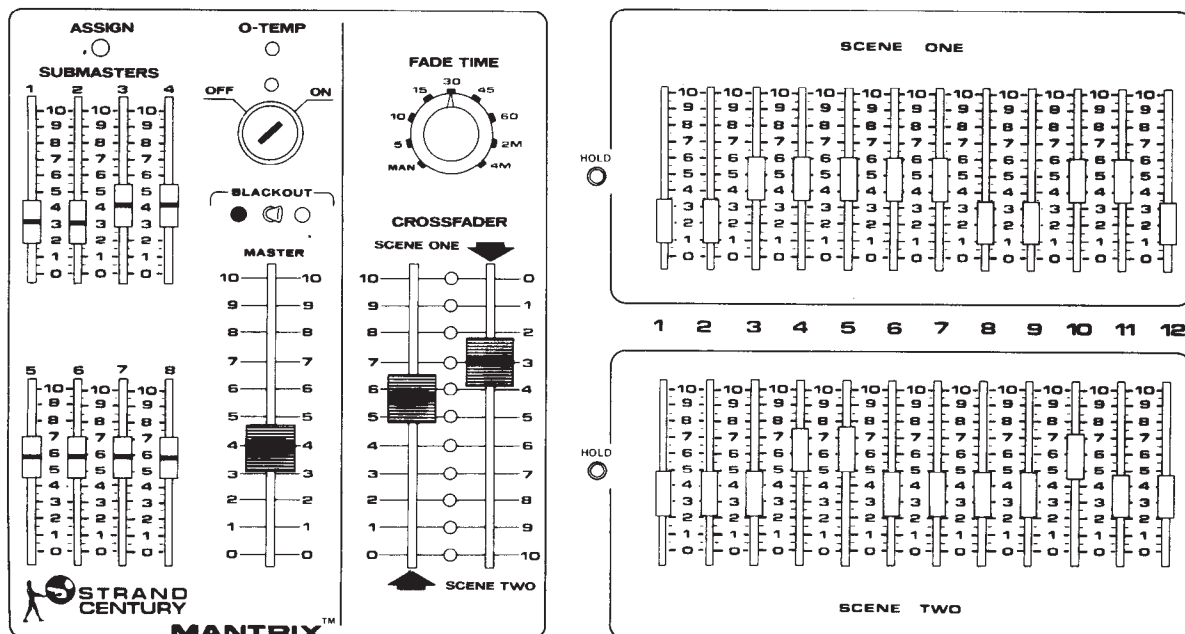

Figure 1-1. MANTRIX Control Module
The Control Module (figure 1-1) is a complete control system with an integrated four-scene preset for 12 channels. The unit is mounted on a 9-1/2 inch high panel, 16 inches wide, and includes the following controls.
4. Turn the ON/OFF keyswitch on the Control Module (figure 1-1) to ON. The green power-on indicator above the keyswitch will illuminate to indicate that power is turned on. The CROSSFADER fade progress indicators come on corresponding to the position of the CROSSFADER handles. If the Matrix Patch Panel is installed, DIMMER and CHANNEL numbers will appear.
The FADE TIME control (figure 1-1) provides a means for making very smooth timed fades, and is especially useful for very long fades which are very difficult to produce manually.